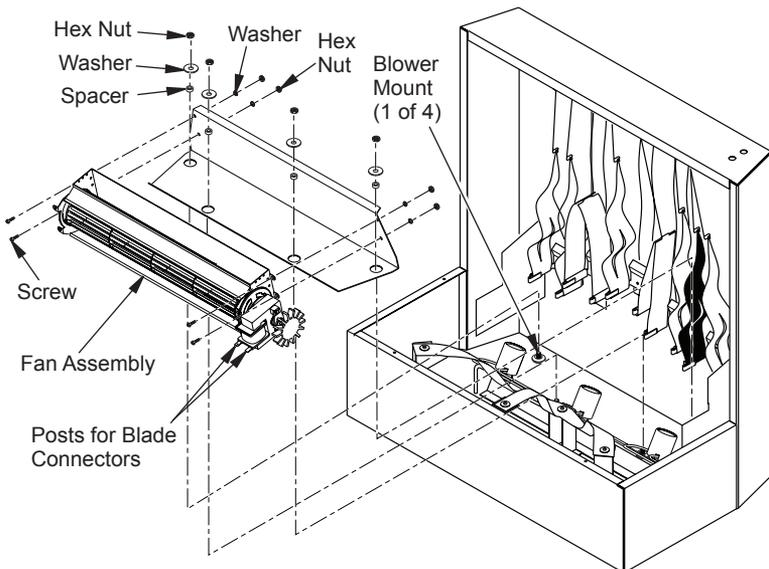

Figure 35 - Removing Fan Assembly (Shown without Firebox for Clarity)
4. Remove 4 hex nuts and washers located on blower mounts at base of cabinet (see Figure 35).